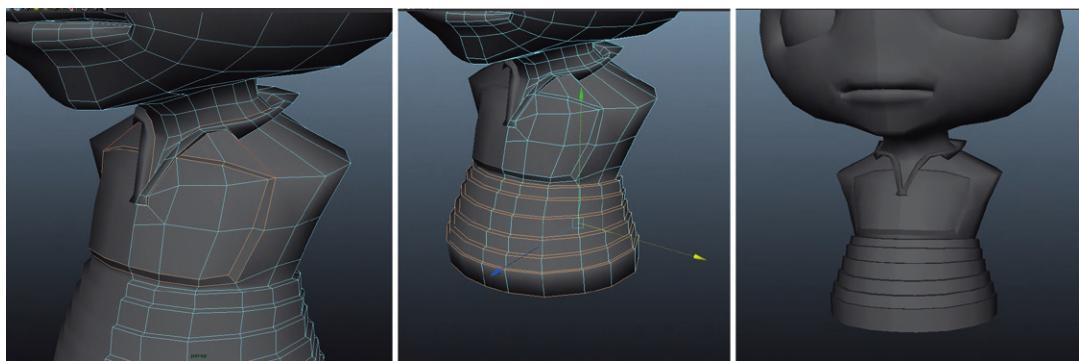

FIG 4.61 Using Harden Edge Tool to sharpen edges.
Step 79: Use Harden Edges to make desired forms crisper. Select the edges shown in Fig. 4.61 and choose Polygons|Normals > Harden Edge.